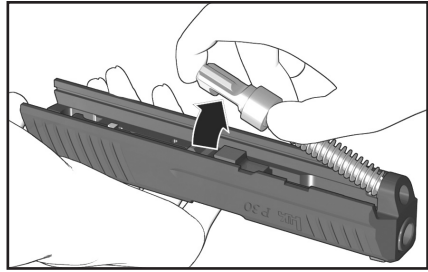

Figure 30 — Removing the recoil spring
8. Turn the slide upside down and carefully push the recoil spring forward and out to either the left or right hand side, separating the recoil spring from the barrel and slide (see Figure 30).